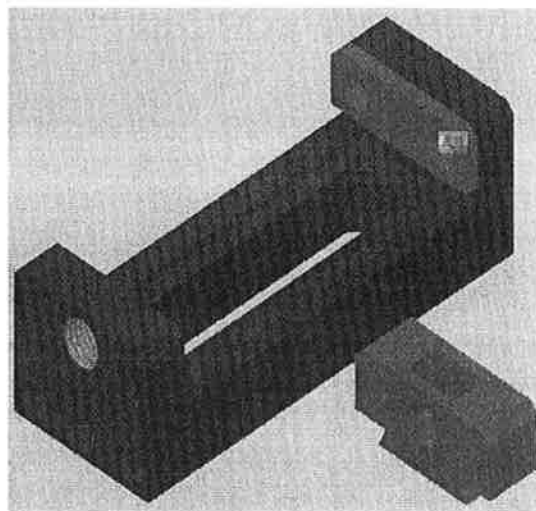

Figure 15-15
2. Using the Move triad, position the component similar to that shown in Figure 15-15. Click **OK**.